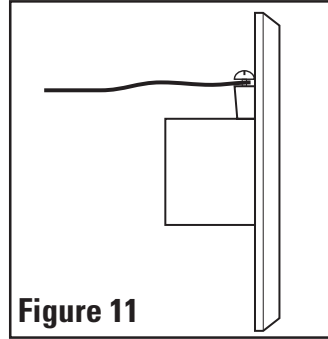

Figure 11
2. Connect the low voltage wire to the terminal screws on the rear of the wall inlet (**Figure 11**).
6. Remove the wire and pass it through the upper hole of the mounting plate and connect to the terminal screws on the rear of the wall inlet (**Figure 11**).